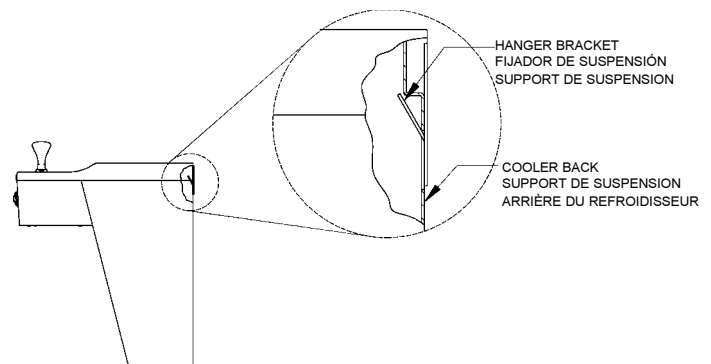

FIG. 4
- 4) Hang the cooler on the hanger bracket. Be certain the hanger bracket is engaged properly in the slots on the cooler back as shown in Fig. 4.
- 5) Loosen the two (2) screws holding the lower front panel at the bottom of cooler base and two (2) screws at the top. Remove the front panel and set aside.